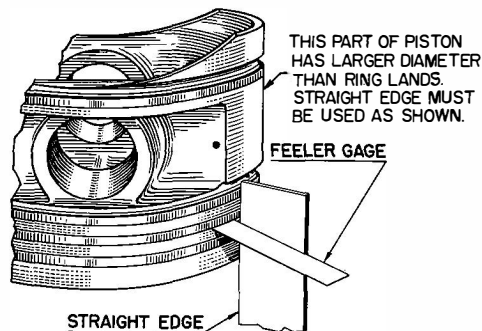

Figure 6-11. Method of Checking Piston Ring Side Clearance
- a. Side clearance between piston ring and piston (514, 515, 516 and 517). Pistons for Avco Lycoming opposed engines are ground with a slight taper from the skirt to the head, with the exception of the lands between the top compression and oil control rings, which are ground parallel. The clearance on wedge type compression rings therefore, must be measured as shown in figure 6-11 in order to obtain a true check of the side clearance.
- b. Inside diameter of piston pin hole (512).
- c. Clearance between piston skirt and cylinder and piston diameter at top and bottom (519).